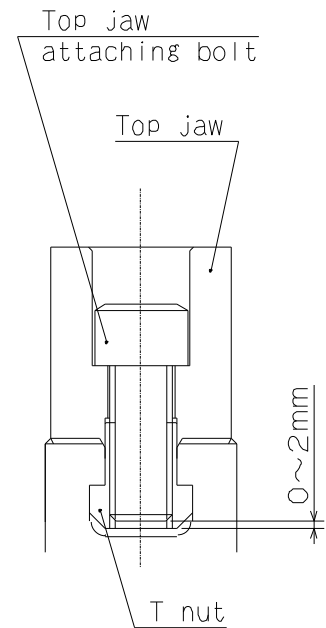

Fig.13
- If the screw-in depth of the jaw attaching bolt to the T nut is shallow, the T nut will break, and this is dangerous as the jaw and work will fly out. If the attaching bolt is too long and comes out from the bottom of the T nut as well, this is dangerous as the jaw and work will fly out since the top jaw is not fixed. Therefore, the overall length of the jaw attaching bolt must be approximately 0 to 2mm from the bottom of the T nut (Refer to Fig.13).